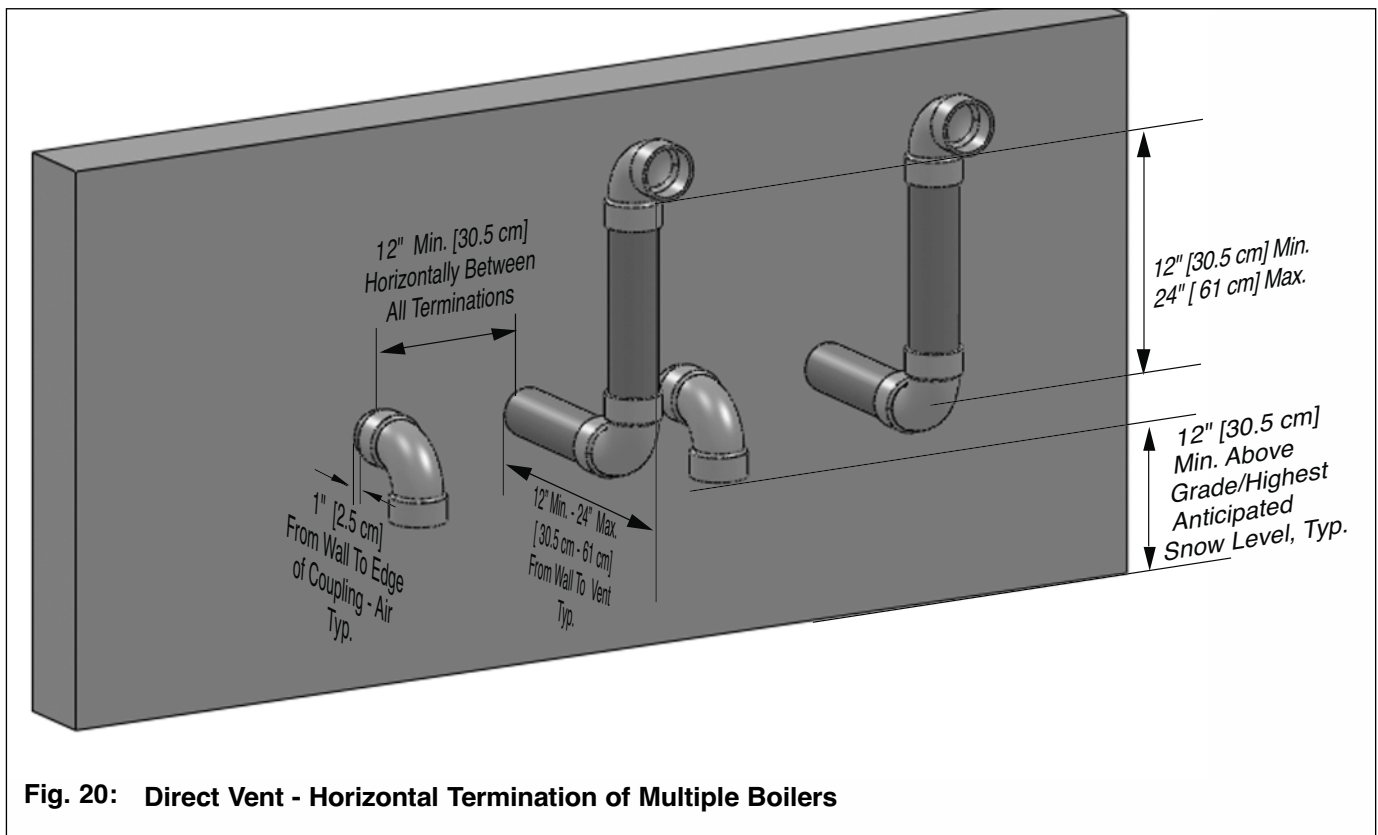

Fig. 20: Direct Vent - Horizontal Termination of Multiple Boilers
2. The wall penetration of the vent and combustion air pipe should be such that the combustion air inlet is a minimum 12" [30.5 cm] from the adjacent vent pipe of the other boiler for installations in the U.S as shown in Fig. 20. For installations in Canada, provide clearances as required by CAN/CSA B149.1.
Fig. 20 shows one option for air terminations of multiple. Either termination option show 17 can be used for multiple PI. 12" [30.5 cm] minimum distance between center-lines of the combustion air and vent piping must be maintained for any chosen option.